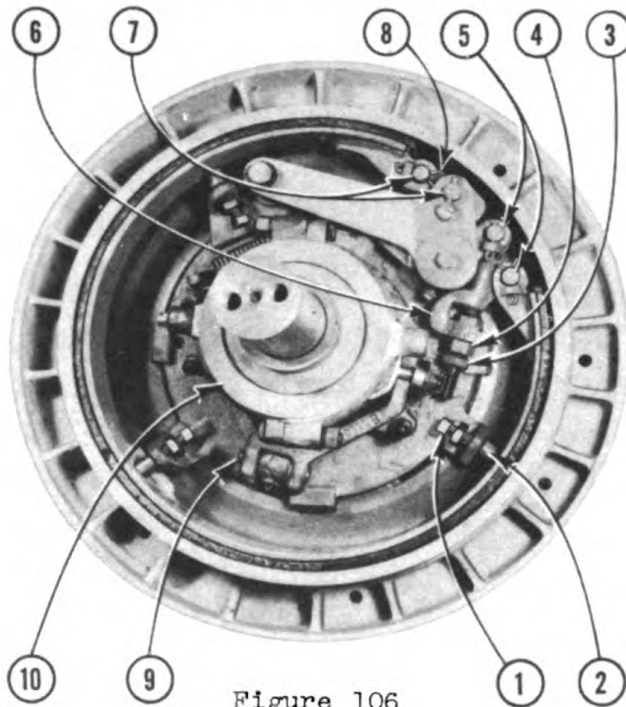

Figure 106
Remove the capscrews, lock plate and keeper plate (4) at the gear end of the shaft. Drive or pull off gear (3) and remove gear key. Pull bearing retainer off shaft with a bar and bolts as described on Page (133). Remove pin (9) and slide clutch sleeve assembly (10) Figure 106 off shaft. Pull right hand clutch spider (5) with rods screwed in tapped holes as described on page (133). Remove clutch spider key (6). Keep spacer (7) and spider (5) together and mark them for the right hand end of the shaft. The right hand drum (8) can now be pulled off with bar and rods in the same manner as described on Page (133). Remove the shaft and bearing cover (9) on the left end of the shaft. Remove capscrews, lock plate and keeper plate (10). Pull off pillow block (2) and bearing retainer (11) as a unit. Remove pin and slide clutch sleeve assembly off the shaft. Pull left hand clutch spider (12) with rods screwed into tapped holes in the clutch spider and a bar as described on Page (133). Spacer (13) will come off with the clutch spider. Keep spider (12) and spacer (13) together, marking them for the left hand end of the shaft. The left hand drum (14) can now be pulled off the shaft in the same manner as the right hand drum was pulled or the shaft can be driven out of the drum by bumping the left end of the shaft with a heavy block. Drive the ball bearings out of the bearing retainers and drum, using a hardwood block or brass driving rod.